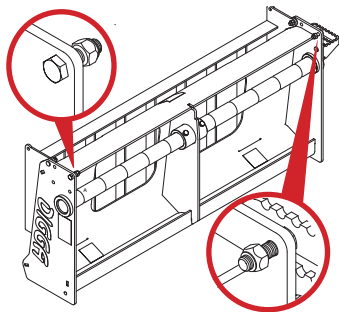

Figure 4
1. Remove the front nuts and bolts from both sides of the frame (Figure 4).